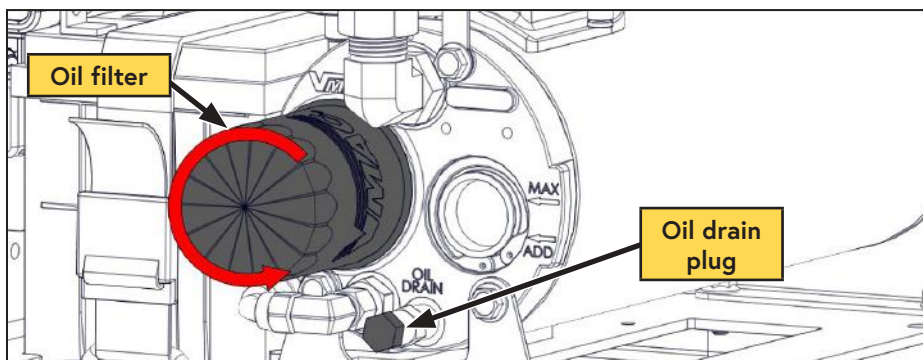

Figure 39 — Compressor oil filter
- ☐ Remove the oil drain plug and drain the oil into a container with a capacity of at least 4 L (1 USG) (Figure 39).
- ☐ Remove the oil filter (Figure 39).